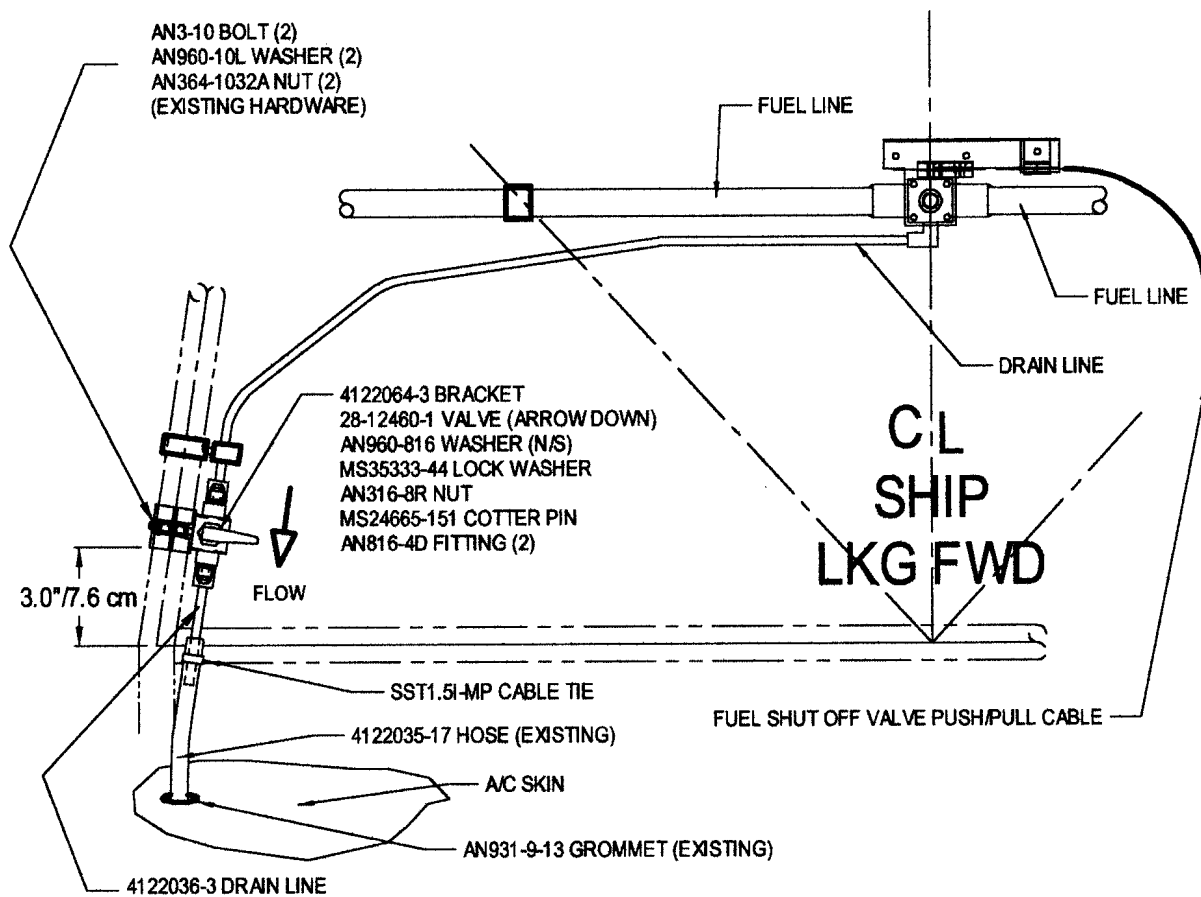

FIGURE 1
5.1. MODIFICATION - Standard Aircraft (Refer to Figure 1)